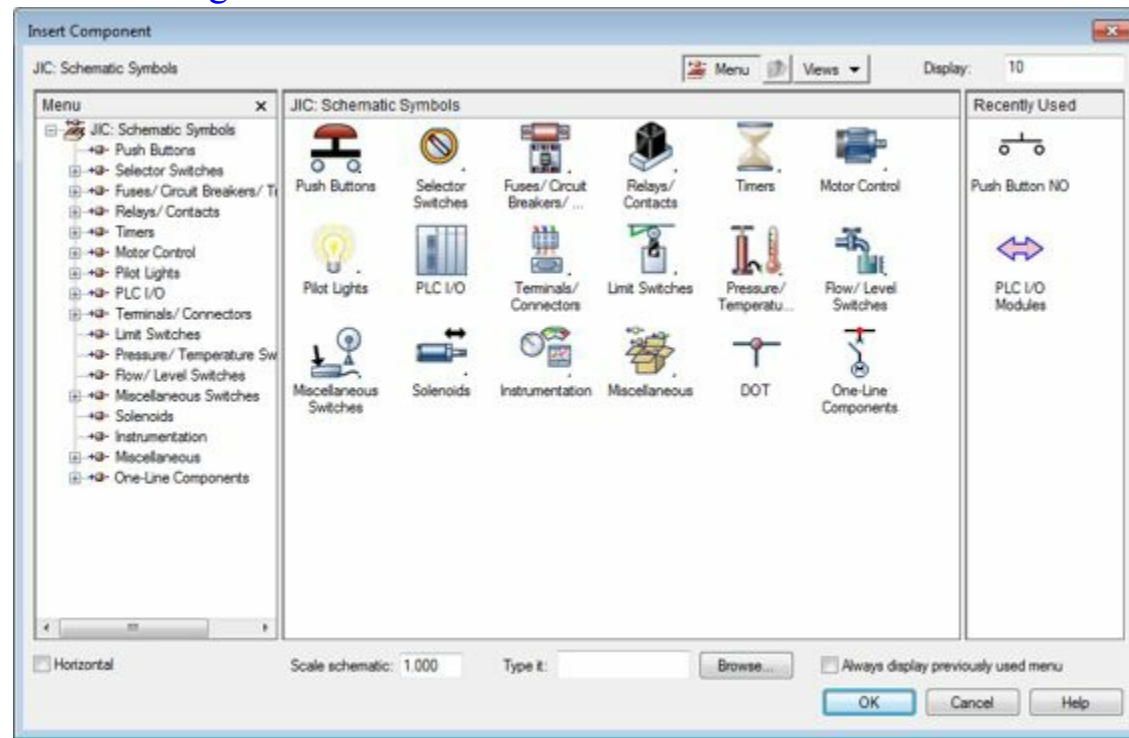

Figure-20. Insert Component dialog box
- Click on the  button to assign a symbol. The **Insert Component** dialog box will be displayed; refer to Figure-20.